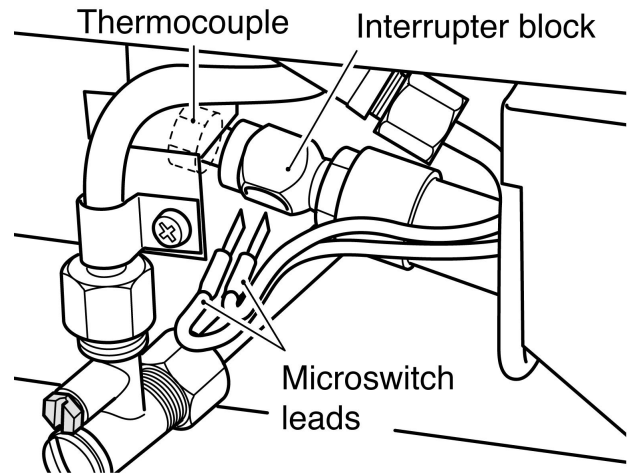

Figure 34. Thermocouple interrupter block
3. Loosen the thermocouple nut to free the microswitch leads and pull the leads clear of the thermocouple interrupter block (See figure 34).
(See figure 34).